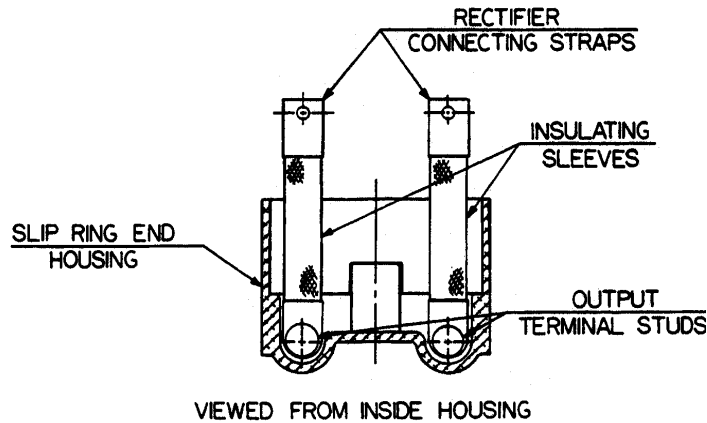

FIGURE 23
2. Install a rectifier connecting strap (25) on the negative output terminal (23). Install the output terminal in the housing (30) with the connecting strap routed as shown. (See Figure 23.)